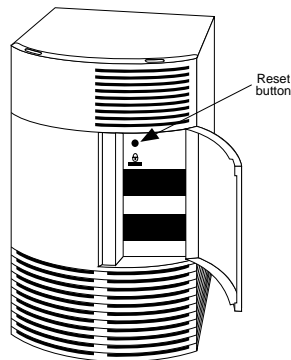

Figure 6-7 Pressing the Reset Button
1. If the system is malfunctioning and you cannot communicate with it using the mouse or keyboard, or over the network, press the **Reset** button located behind the front door, as shown in Figure 6-7.